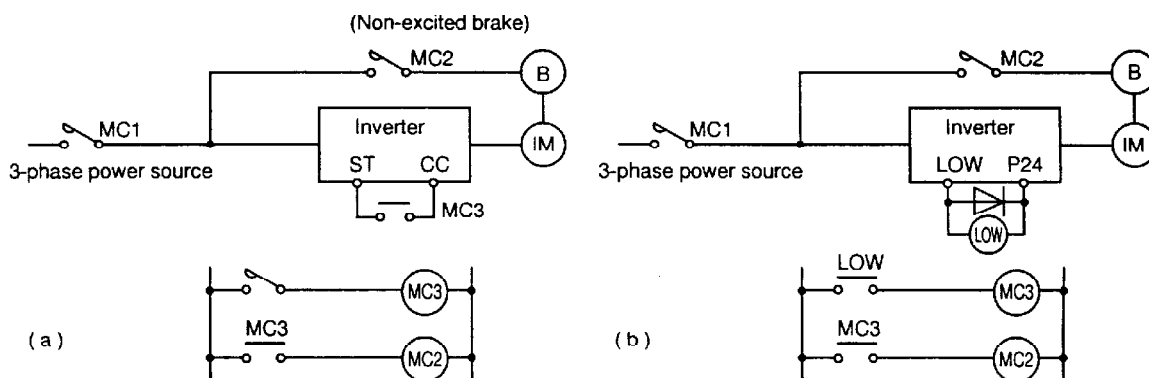

Fig. 4.1 Circuit configuration for motor with brake
- Motors with brakes:** If a motor with a brake is directly connected to the inverter, the voltage when the motor is started will be low, which may result in the brake not being released. In this case, separately wire the brake circuit and motor main circuit. In addition, there is a delay in the time to when the inverter output stops if the inverter's ST to CC control terminal connection is released, so use of the circuit configuration in Fig. 4-1 is recommended.